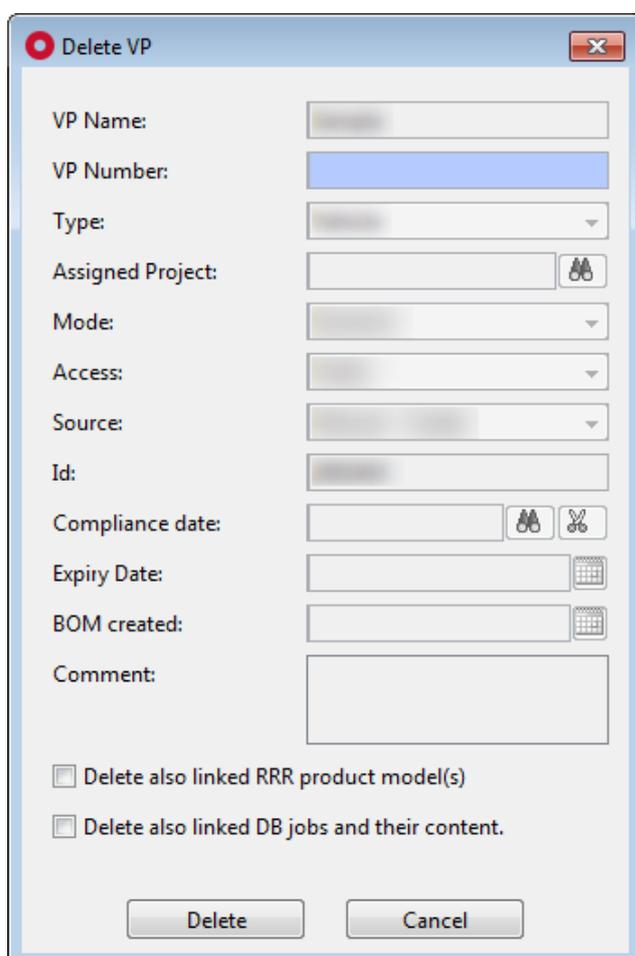
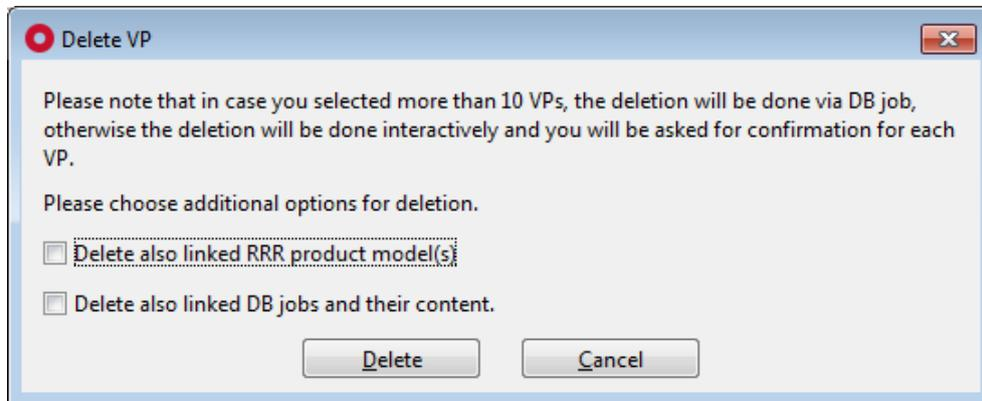
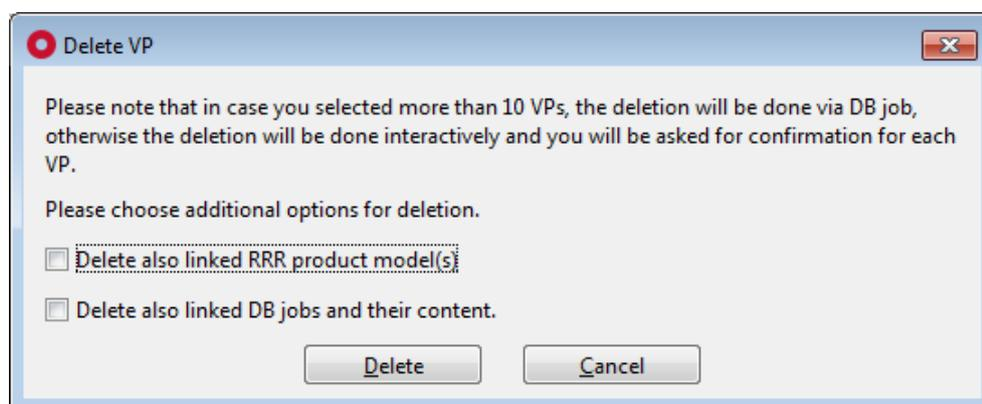

Figure 11 Dialog window for deletion of a single VP
Figure 12 Dialog window for deletion of multiple VPs at once
Figure 16 Dialog window for deletion of multiple VPs at once
- In case one VP is selected, see **Figure 12**
- In case multiple VPs are selected, see **Figure 11**
Upon click on the **“Delete VP”** button the dialog window for VP deletion is shown (see **Figure 16**).
This checkbox is available in VP delete dialog windows (see **Figure 11**, **Figure 12** and **Figure 16**).